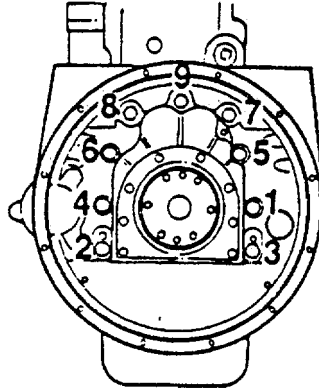

FIGURE 3-69. *Flywheel Housing Torque Sequence.*
- (2) Install the flywheel housing over the guide studs.
- (3) Install the capscrews, and tighten to 150 ft-lb (205 N•m) torque in the sequence shown in Figure 3-69 .